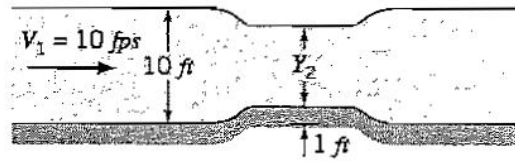

Figure P10.10
10.10 Water in an open channel of constant width flows over a bump of height 1 ft , as shown in Figure P10.10. What is the depth of the water Y_2 ? Assume uniform flow of constant width with no losses.